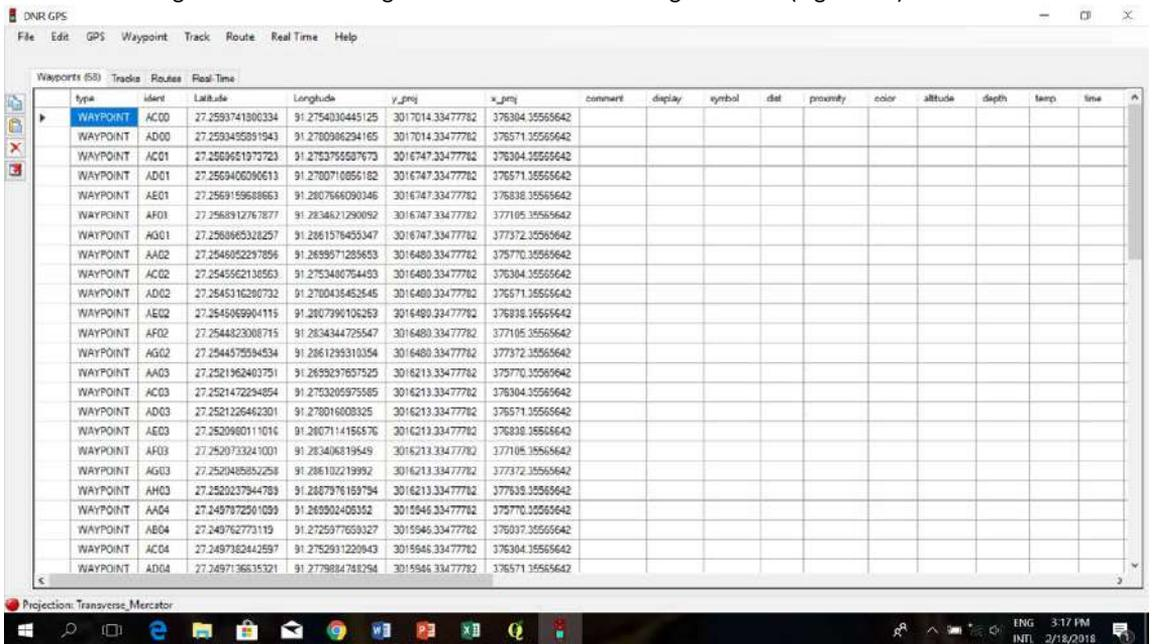

Figure 10i
- o Plot geo-coordinates are generated as shown in the figure below (Figure 10i).